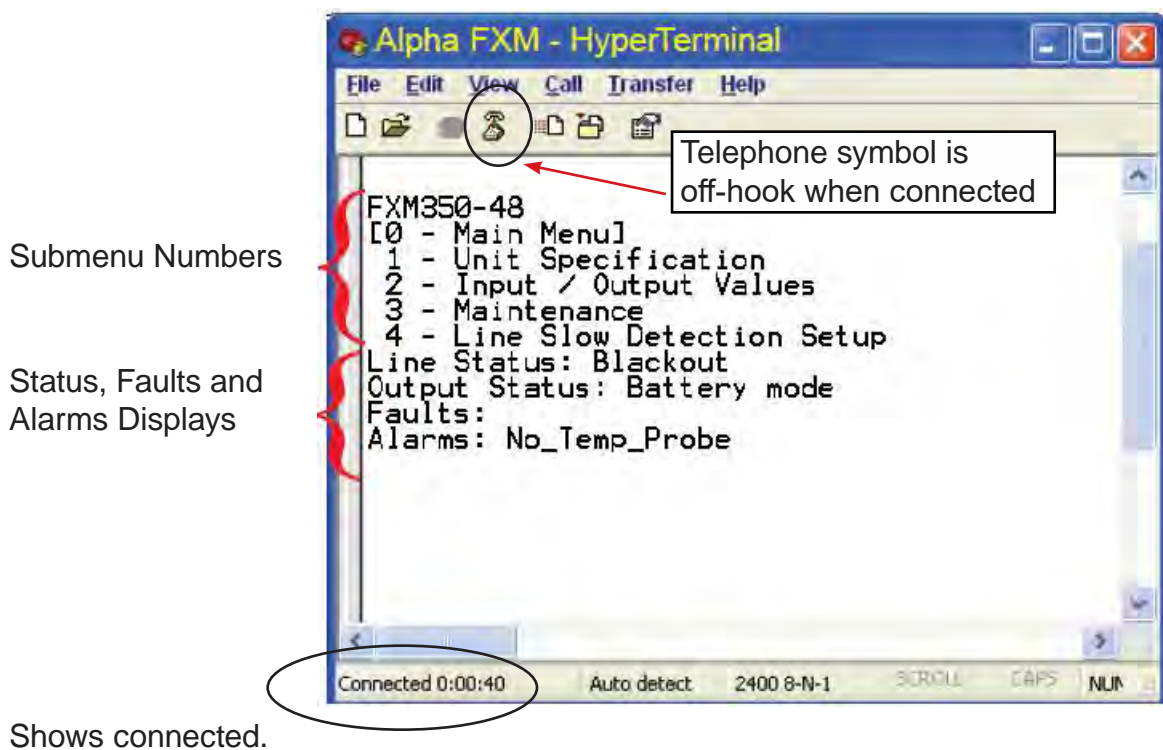
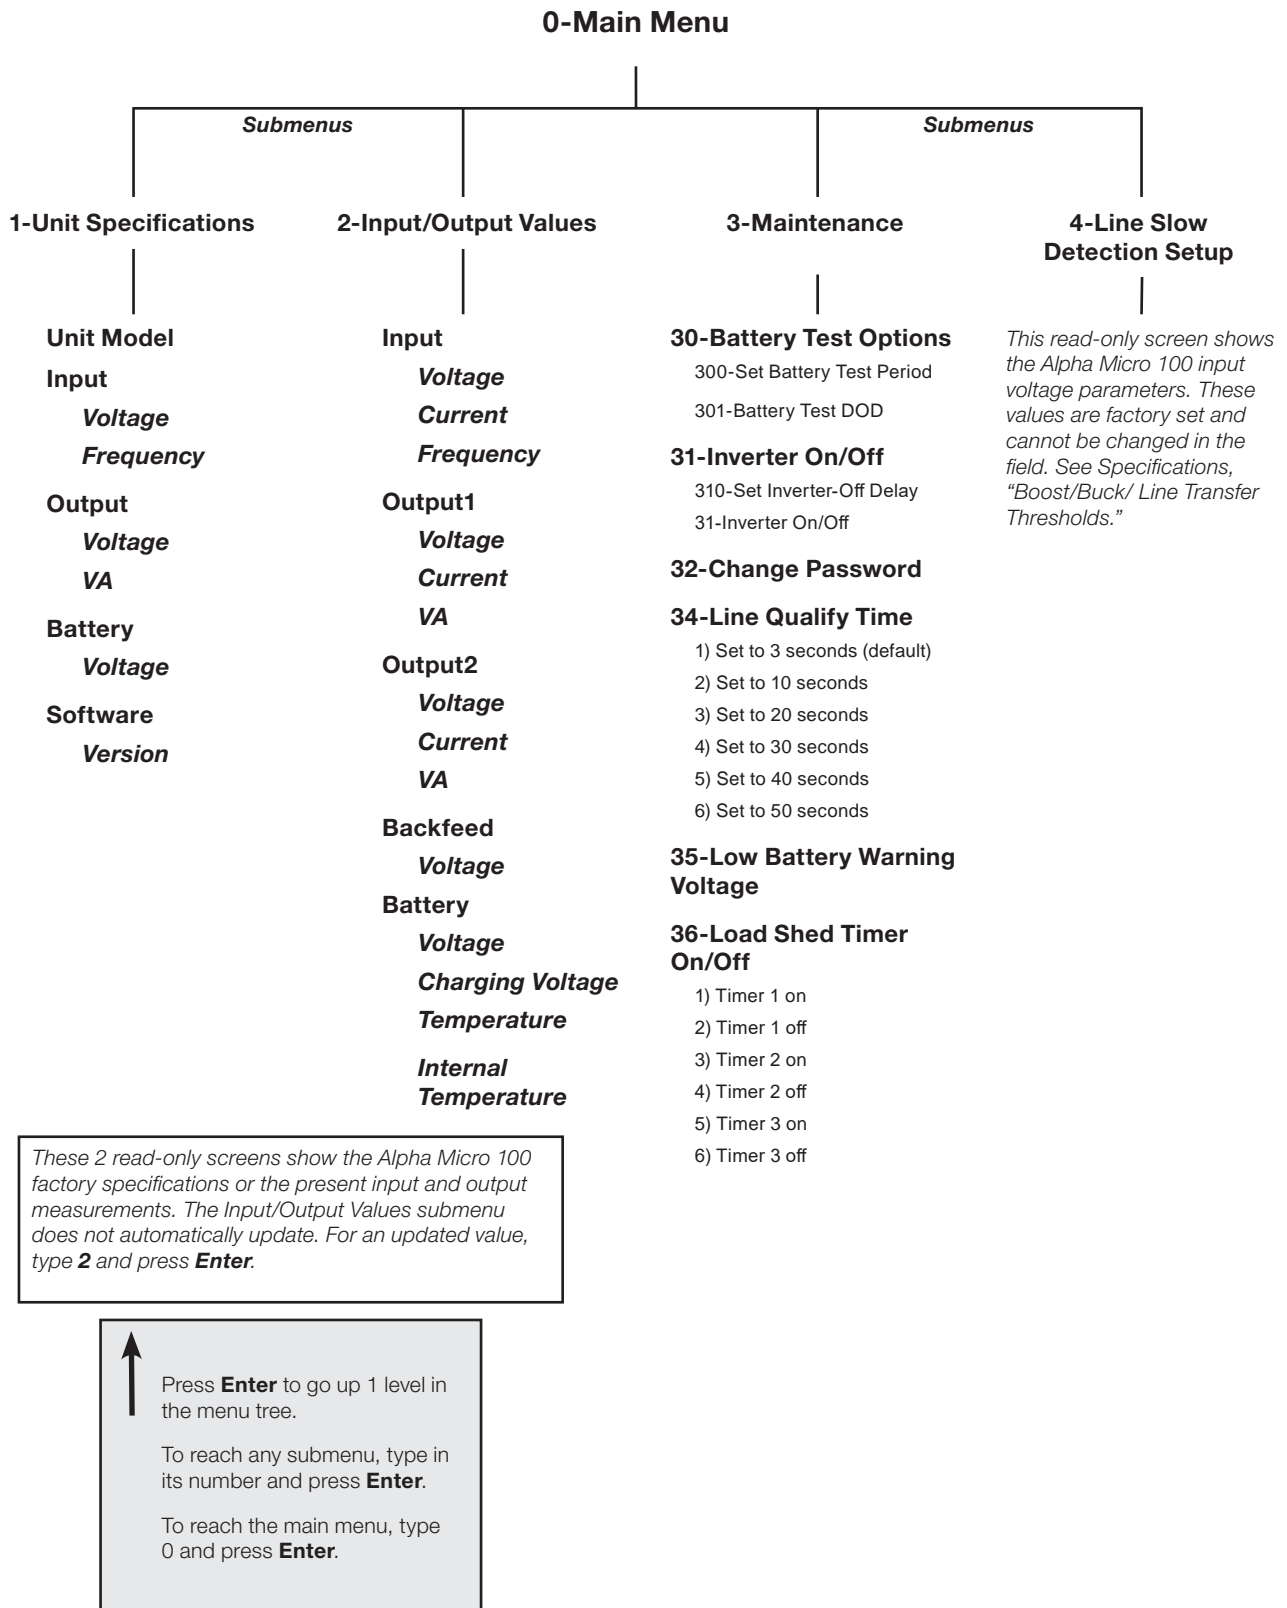

Figure 51 — Main Menu Screen
Figure 52 — Menu Tree
Once HyperTerminal is open, ensure that the Alpha Micro 100 has connected to the computer. See Figure 51 for connection indicators.
The complete menu tree is shown in Figure 52. There are also tables describing the Line Status (Table L), Output Status (Table M), Faults (Table N) and Alarms (Table O).
**Table N — Faults (see Figure 51)**
Table N — Faults (see Figure 51)
**Table O — Alarms (see Figure 51)**
Table O — Alarms (see Figure 51)
Use sub menu #3, the Maintenance sub menu (Figure 51 and Figure 52) to control the Alpha Micro 100 and change selected items to meet your operational needs.